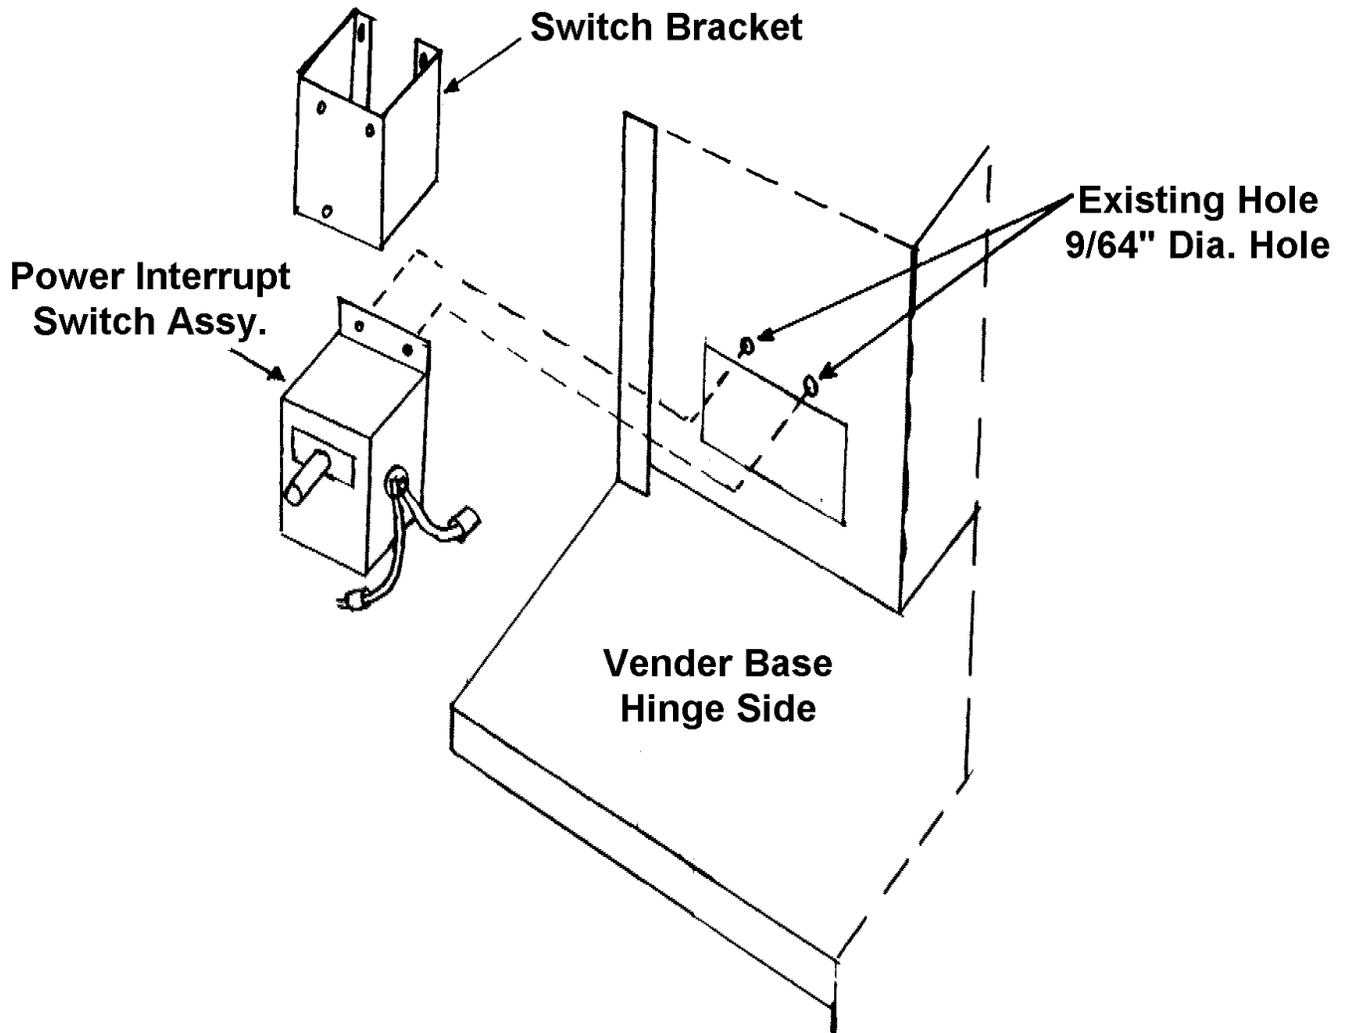

Figure 1
3. Locate the two existing $\frac{9}{64}$ " diameter holes in the left base box. See figure 1.
- In all other venders mount switch assembly to the two existing $\frac{9}{64}$ " diameter holes in the left base box. See figure 1.